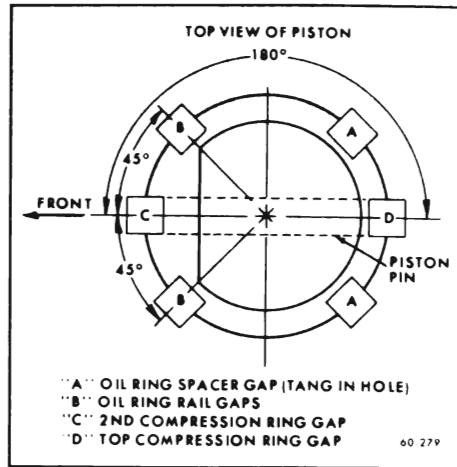

Figure 60-144--Ring Gap Positioning
7. Install piston rings as shown in Figure 60-144.
12. Make sure the gap in the oil ring rails and the gaps of the compression rings are positioned as shown in Figure 60-144.